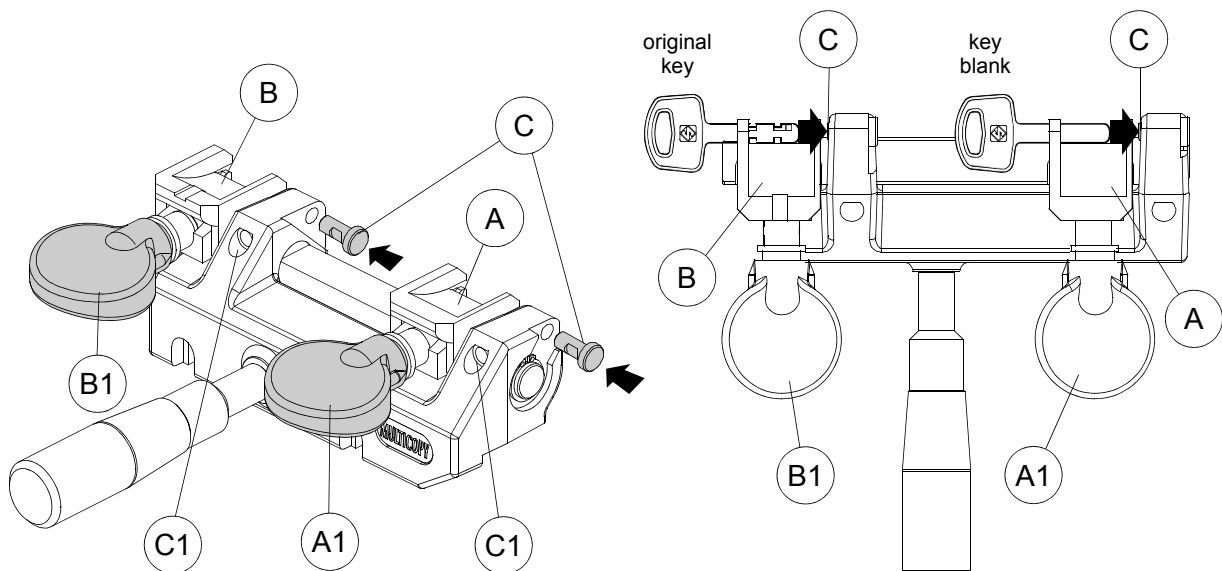

Fig. 13
- 3) fit the 3 mm tip stops provided, positioning them as shown in fig. 13;
Place the original key in the left-hand jaw (B), pushing towards the tip stop and against the side of the jaw (fig. 13); secure by means of the knob (B1). Place the key blank in the right-hand jaw (A) in the same way and secure by means of the knob (A1).